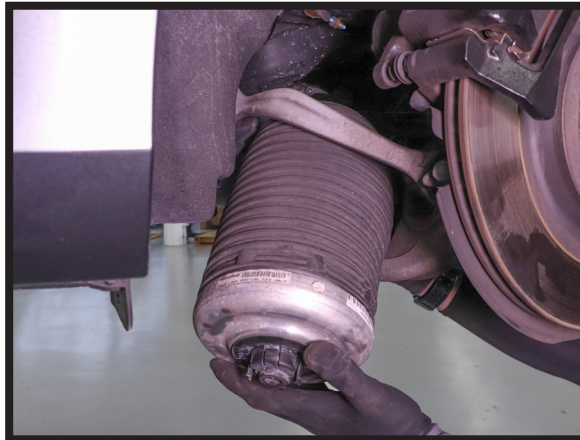

FIGURE 8
6. COMPRESS AND REMOVE THE AIR SPRING FROM THE VEHICLE. (FIGURE 8)